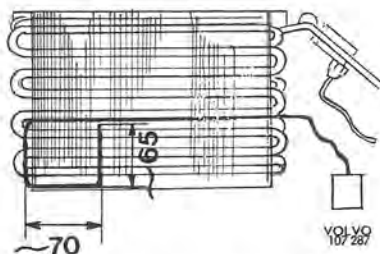

Fig. 8-84. Location of capillary tube in evaporator
6. Insert the new thermostat capillary in the evaporator and bend it according to the measurements in Fig. 8-84. It is important that no sharp bends are made on the capillary.